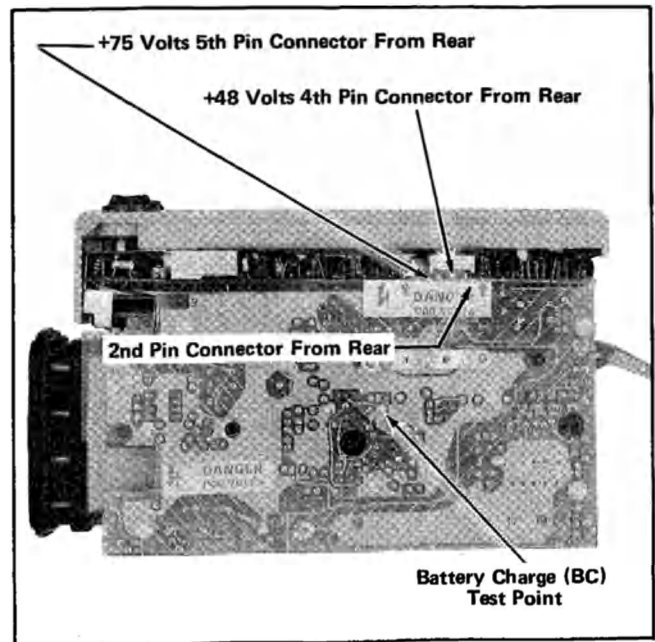

Fig. 5-2. Location of the +75 volt, +48 volt and the battery charger test points.
a. Connect the common lead of the digital voltmeter to the second pin connector on the power supply board. Connect the other lead of the digital voltmeter to the BC test point. See Fig. 5-2.